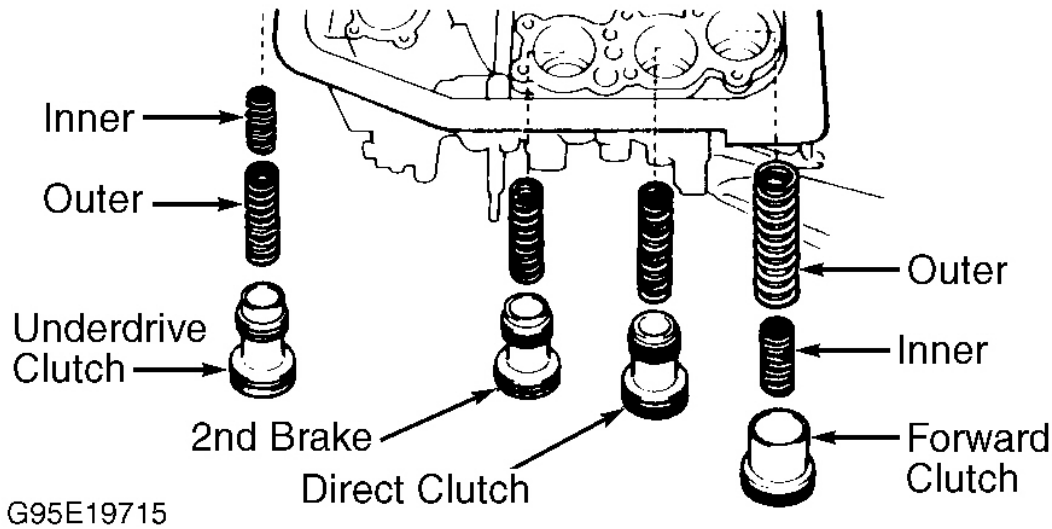

Fig. 62: Identifying Accumulator Pistons & Springs
33. Coat accumulator piston "O" rings with ATF. Install "O" rings on accumulator pistons. Measure spring free length and replace as necessary. See **ACCUMULATOR SPRING SPECIFICATIONS (A-245E)** or **ACCUMULATOR SPRING SPECIFICATIONS (A-247E)** table. Install pistons and springs in transaxle case. See **Fig. 62**.
(1) For accumulator spring locations, refer to illustration. See Fig. 62 .
(2) Information is not available from manufacturer.